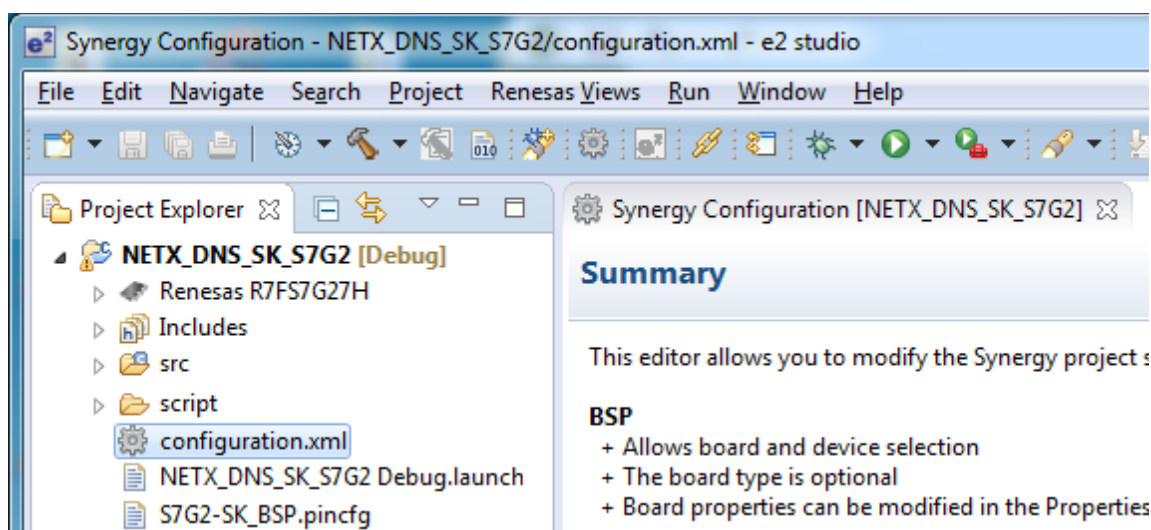

Figure 2.12 Project Explorer
2. Open the Synergy Configuration, if not already open, by double-clicking the **configuration.xml** file in the Project Explorer (Figure 2.12).